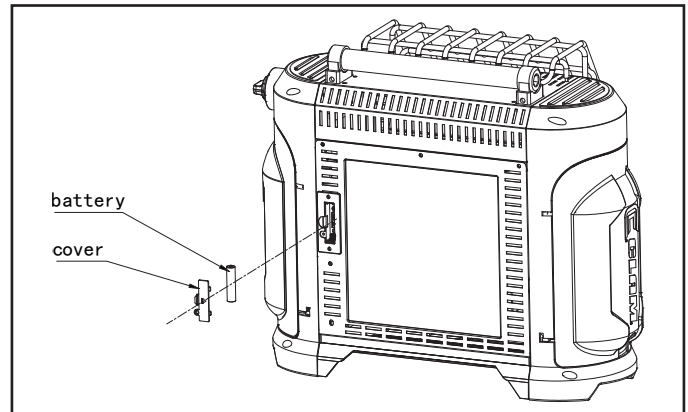

Fig. 3 - Battery location for spark module
2. Insert AAA battery (included) into the battery compartment as shown in figure 3.